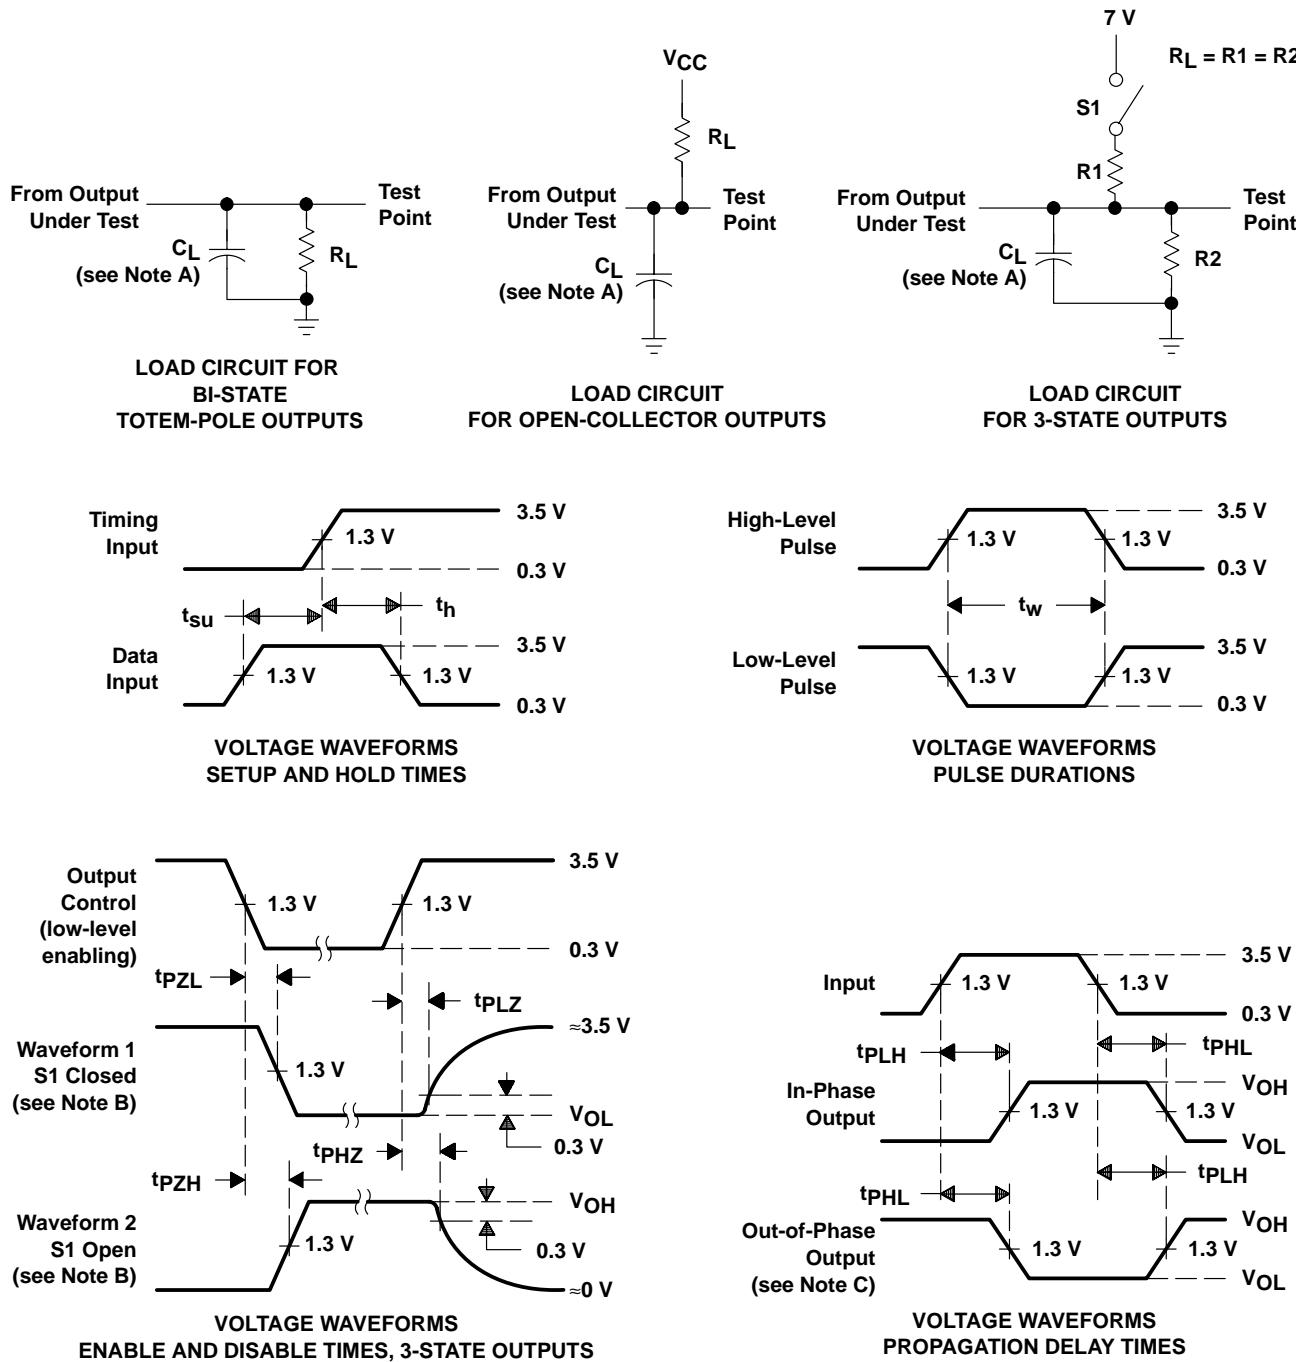

Figure 1. Load Circuits and Voltage Waveforms
**switching characteristics (see Figure 1)**